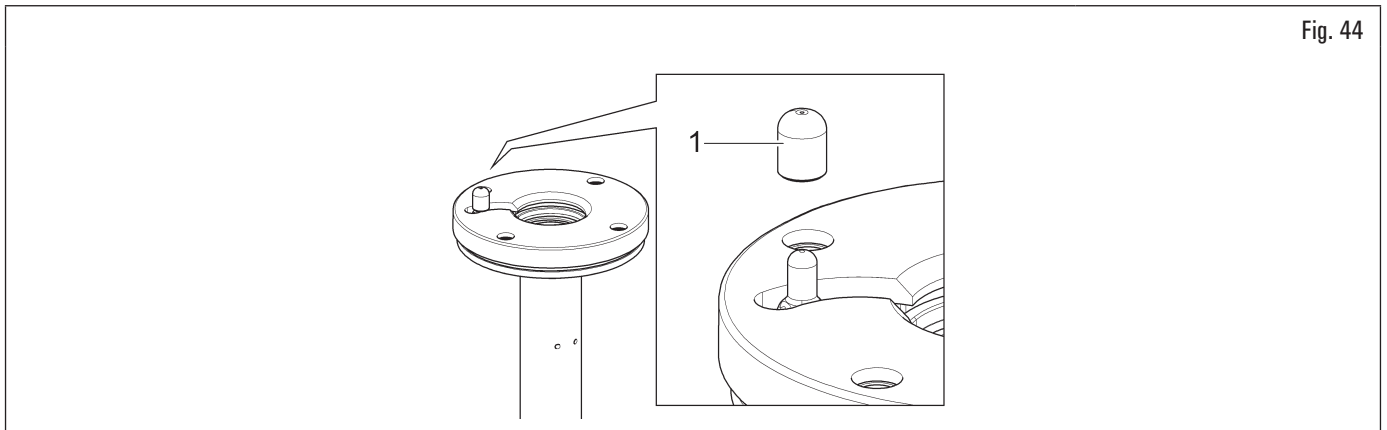

Fig. 44
7. for wheels with alloy rims, use the proper plastic guard (Fig. 44 ref. 1);